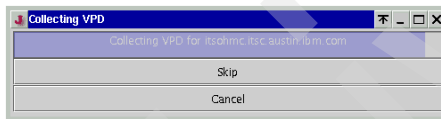

Figure 12-10 Service Agent: VPD collection status
2. To send VPD to IBM, VPD must be collected first onto one of the HMCs. Select the HMC on which you want to perform this task, then click **Collect VPD**. The Service Agent should start gathering VPD information and will display the status screen shown in Figure 12-10.